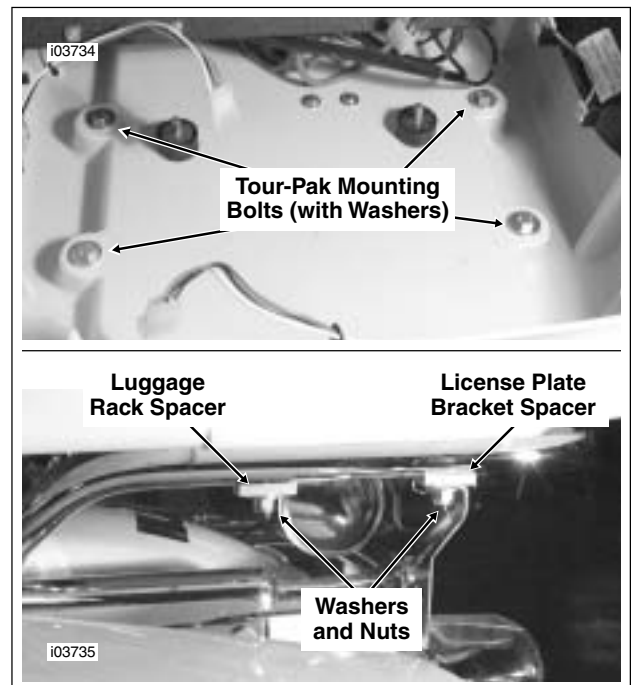

Figure 8-36. Install Tour-Pak Mounting Hardware
9. See upper frame of Figure 8-36. Return to the Tour-Pak. Using parts from kit, pre-install four long hex head bolts with washers from inside bottom of Tour-Pak at four permanent mounting holes.
See lower frame of Figure 8-36. Make sure the two license plate bracket spacers remain in position and bolts can pass through them. Obtain the two rectangular luggage rack spacers and four nuts saved from step 2. Obtain four new washers from kit and loosely install washers and nuts to secure Tour-Pak to support rail.